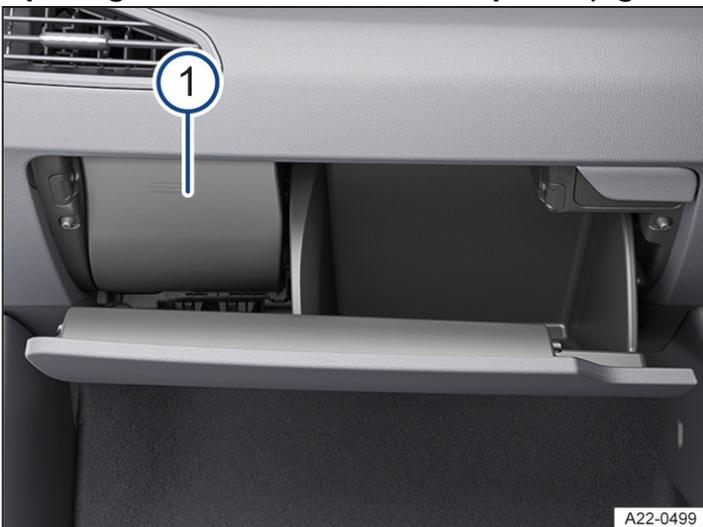

Fig. 2 In the dash panel on the front passenger side: fuse box (right-hand drive vehicle).
2. Pull off the cover from the top → Fig. 2 ①.